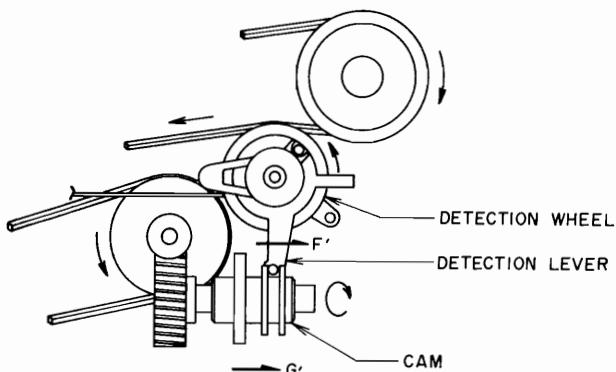

Fig. 7
- 1) Because the detection wheel is turning counter-clockwise as indicated in Fig. 7, friction between the detection wheel and the detection lever causes constant pressure to be exerted on the detection lever in the direction of arrow F', while the detection lever exerts force F' on the cam in the direction of arrow G'. In this case, since the direction of tape transport is opposite to that in the aforementioned operation during Play or Fast Forward mode, the auto stop operation is performed in exactly the opposite way.
- 2) The cam rotates, exerting force on the pawl of the cam in the direction of G' as indicated in Fig. 7 causing the pawl to rotate on the right hand of the plunger. The cycle of E, F and H positions are repeated as illustrated in Fig. 6(b).
- 3) When tape transport stops, the detection wheel driven by the counter belt ceases rotating, and the force in the direction of the arrow G' which was exerted on the cam as shown in Fig. 7 ceases. In this case, the motor continues rotating, keeping the worm pulley turning. Therefore, when the cam continues to rotate with the pawl shifted from E to F position, the pawl does not move in the direction of C but turns in the center of the plunger.